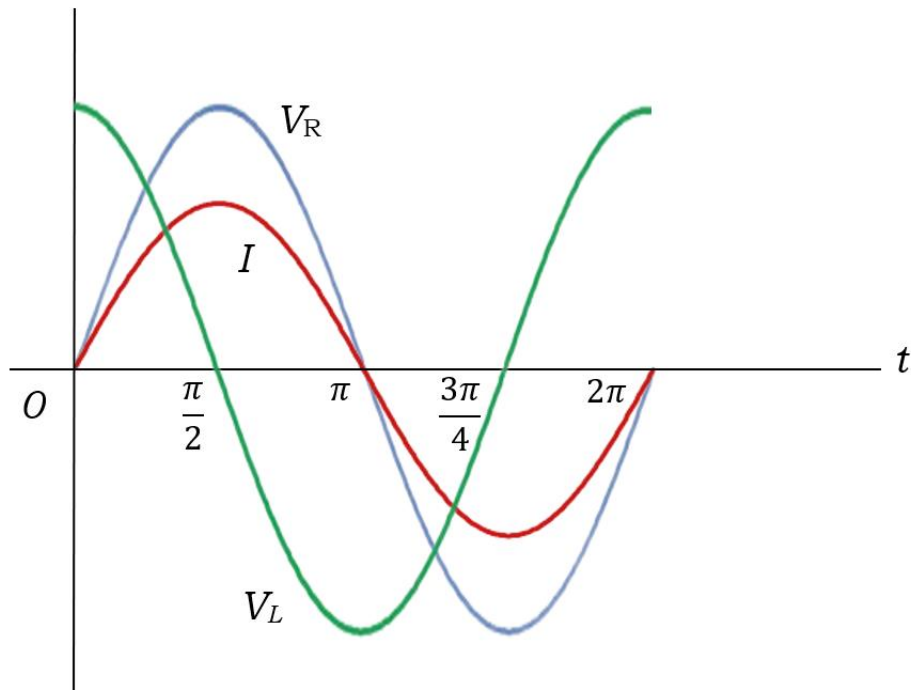

Fig. 2: Phases of V_R and V_L versus the phase of I for an R - L circuit
Based on Eqs. (3) & (4), the voltage across the inductor V_L leads the current I by $\frac{\pi}{2}$, whereas the voltage across the resistor V_R is in phase with the current I as shown graphically in **Fig. 2**. In Eq. (4), $V_{Lm} = L\omega I_m$, that is the quantity $L\omega$ has a unit of Ohm, and is called the reactance of the inductor, $X_L = L\omega$.